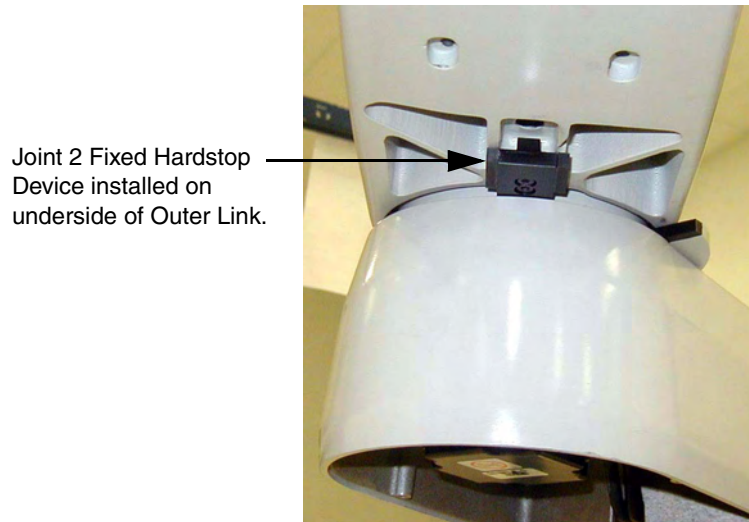

Figure 6-23. Fixed Hardstop Device for Joint 2
3. Slide the fixed hardstop device into the slot on the underside of the outer link. See Figure 6-23 on page 91.